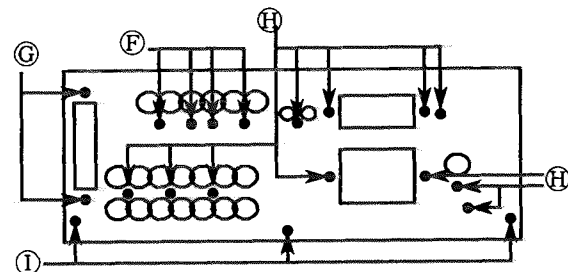

FIG.3 Rear side
2. Remove 20 screws (F),(G),(H) and (I). (FIG.3)
2. Remove 2 screws (C).(FIG.3)
5. Remove 3 screws (I).(FIG.3)